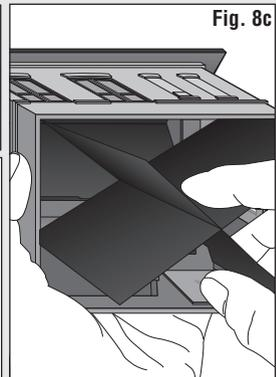

Fig. 8c
- Insert into Building. (Fig. 8c)